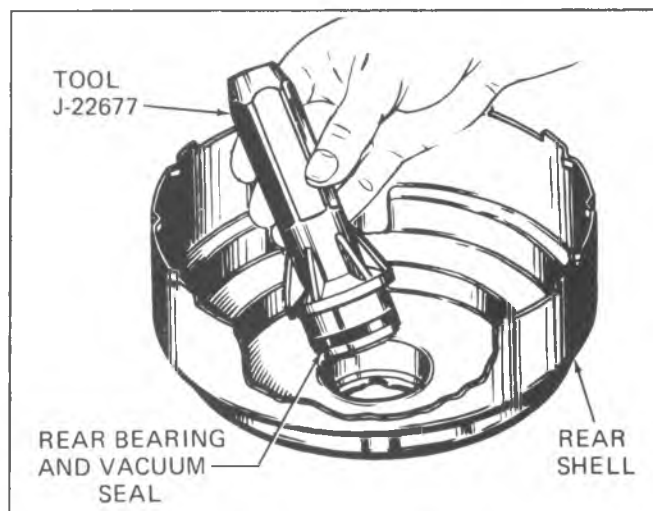

Fig. 5-8B--Installing Rear Bearing and Vacuum Seal
1. Press the new bearing and seal into the cavity in the rear housing using Tool J-22677 (fig. 5-8B). The flat rubber surface of the seal should be 5/16" below the flat, inside surface of the rear housing.